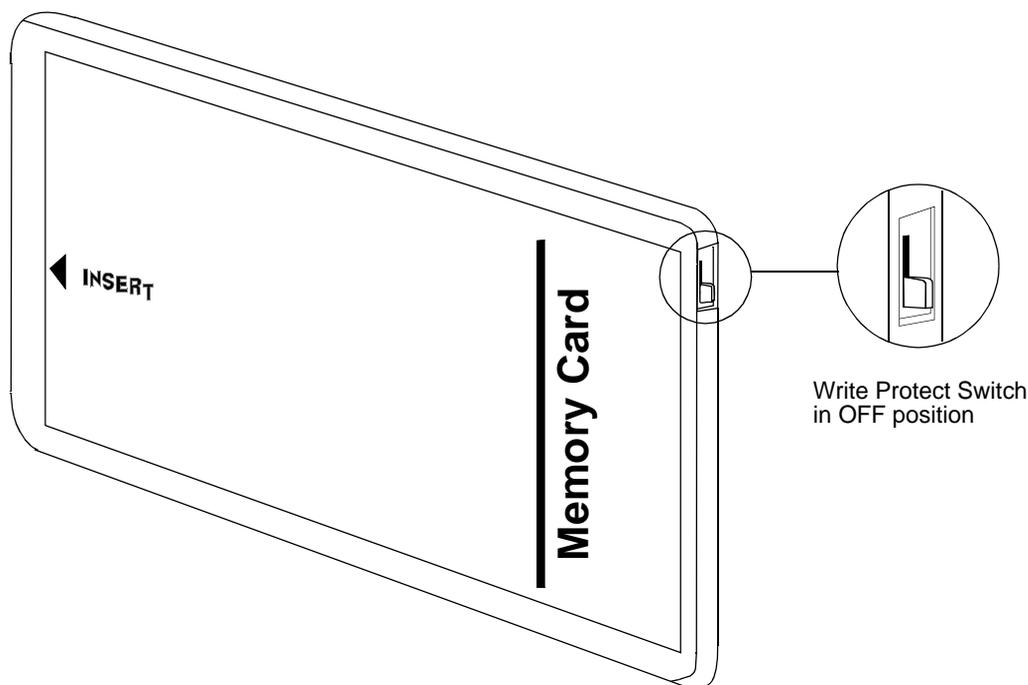

Figure 5-1. Memory Card
1. Verify that the slide on the memory card, shipped with the MCU, is not in the write-protect position as shown in Figure 5-1.